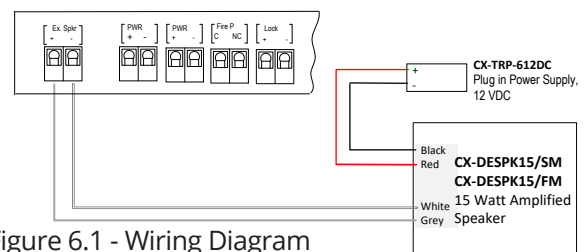

Figure 6.1 - Wiring Diagram
4. Wire as per figure 6.1 and finally, Connect power and test for proper operation.